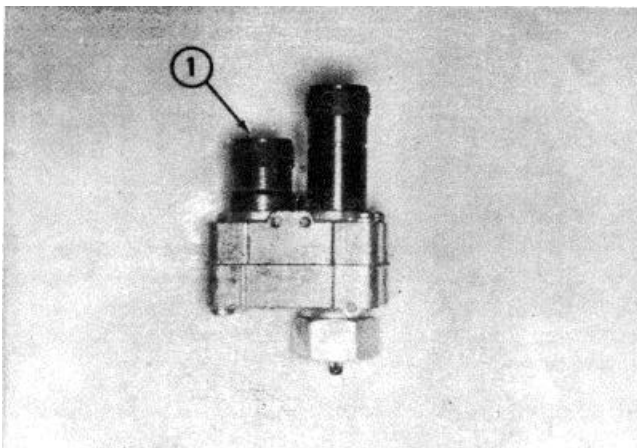

Fig. 1-21, (ST-1224). ST-1224 adapter
An adapter, ST-1224 with 2:1 ratio, in speed switch drive only, (1, Fig. 1-21) is available to drive the speed switch at twice the engine speed. This tool when
- Note:** The overspeed stop switch cable must be connected to the short adapter connection. (1, Fig. 1-21).